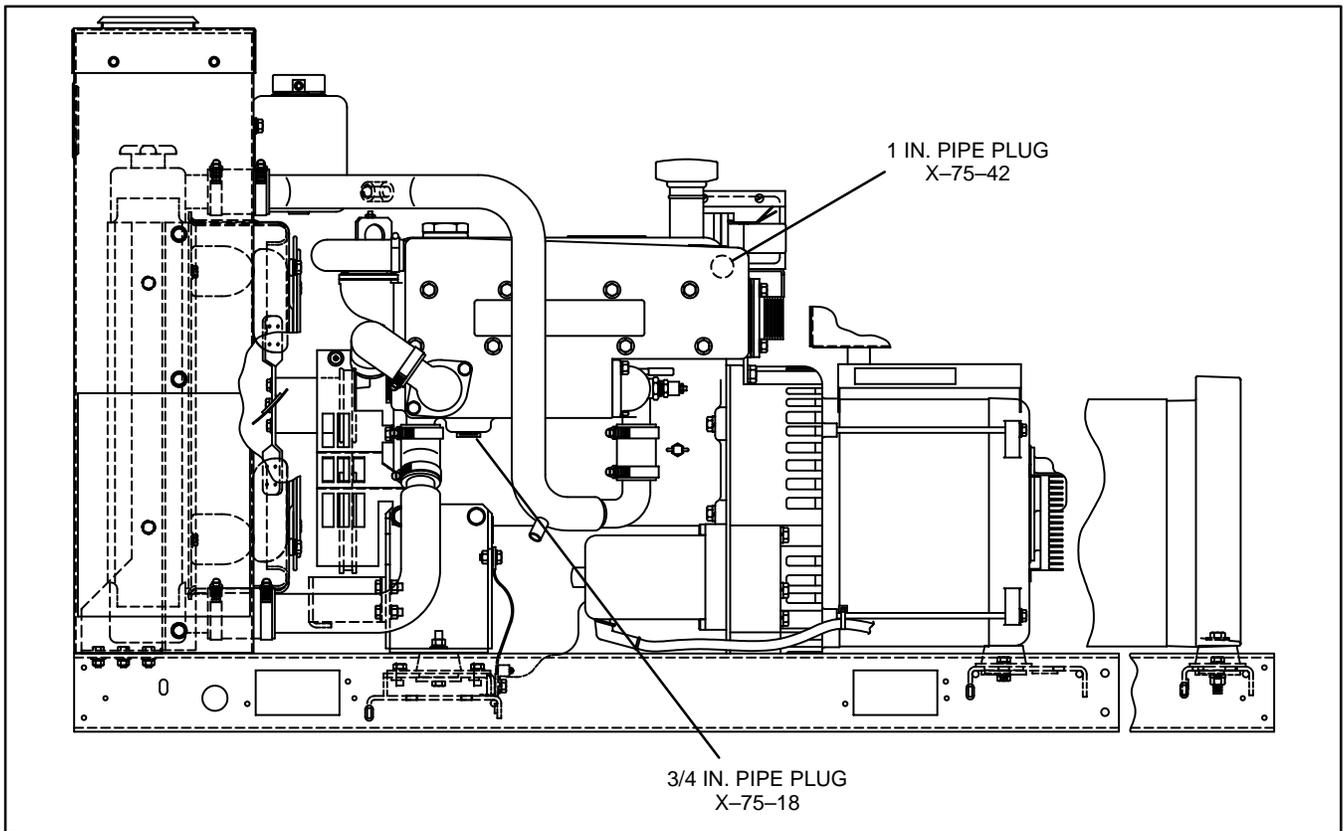

Figure 2. Exhaust Manifold Installation
9. Apply pipe sealant (Loctite 567) to threads of 3/4 in. pipe plug (X-75-18) and install in opening in bottom of manifold. See Figure 2. Apply pipe sealant (Loctite 567) to threads of 1 in. pipe plug (X-75-42) and install in opening on back side of manifold.